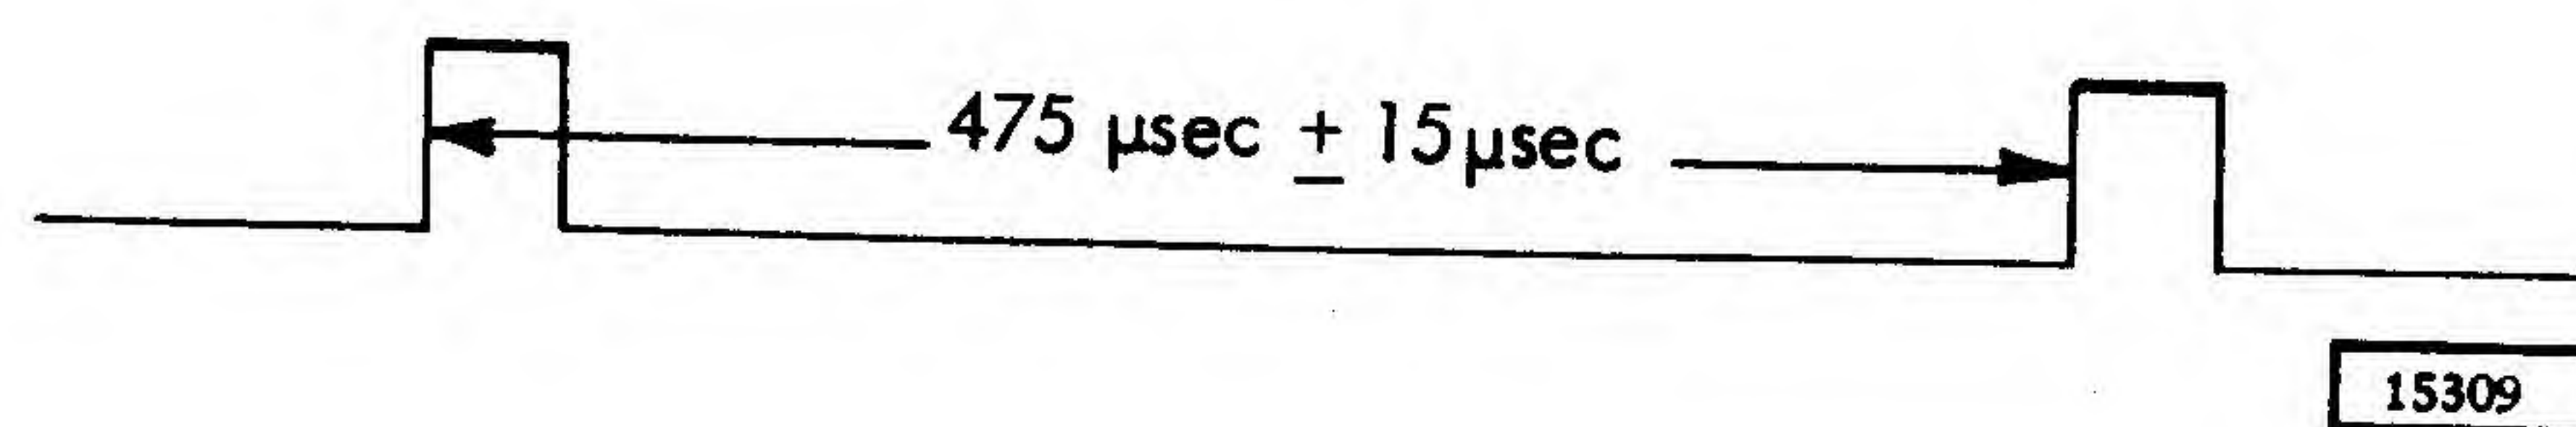

Figure 4-4. Early to Late Index Timing
2. The time between the positive leading edges of the outputs at the early and late index amplifiers should be 475 microseconds, plus or minus 15 microseconds (Figure 4-4). If this timing is not within these limits, the shaft motor may have failed.